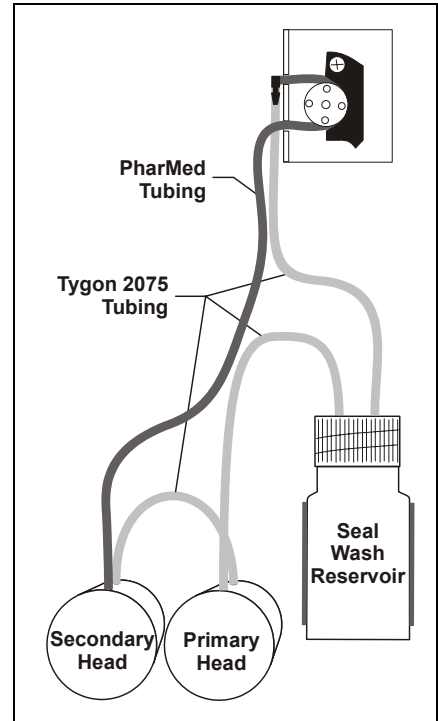

Figure 9-8. Piston Seal Wash Tubing Connections
7. Connect the new tubing pieces to the seal wash reservoir and pump heads (see Figure 9-8).